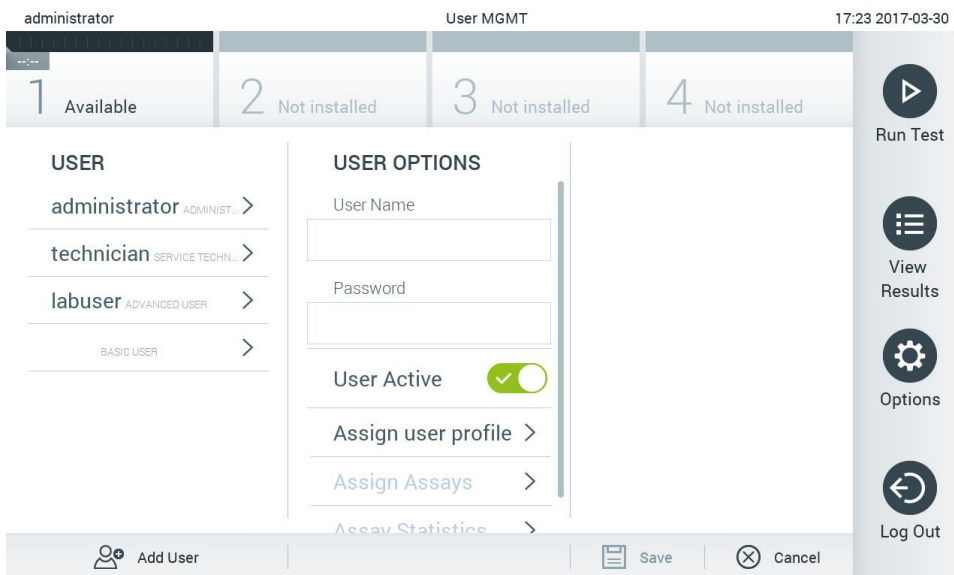

Figure 64. Adding a new user.
1. Press **Options** and then **User Management** to configure users. The User Management screen appears in the content area of the display (Figure 64).